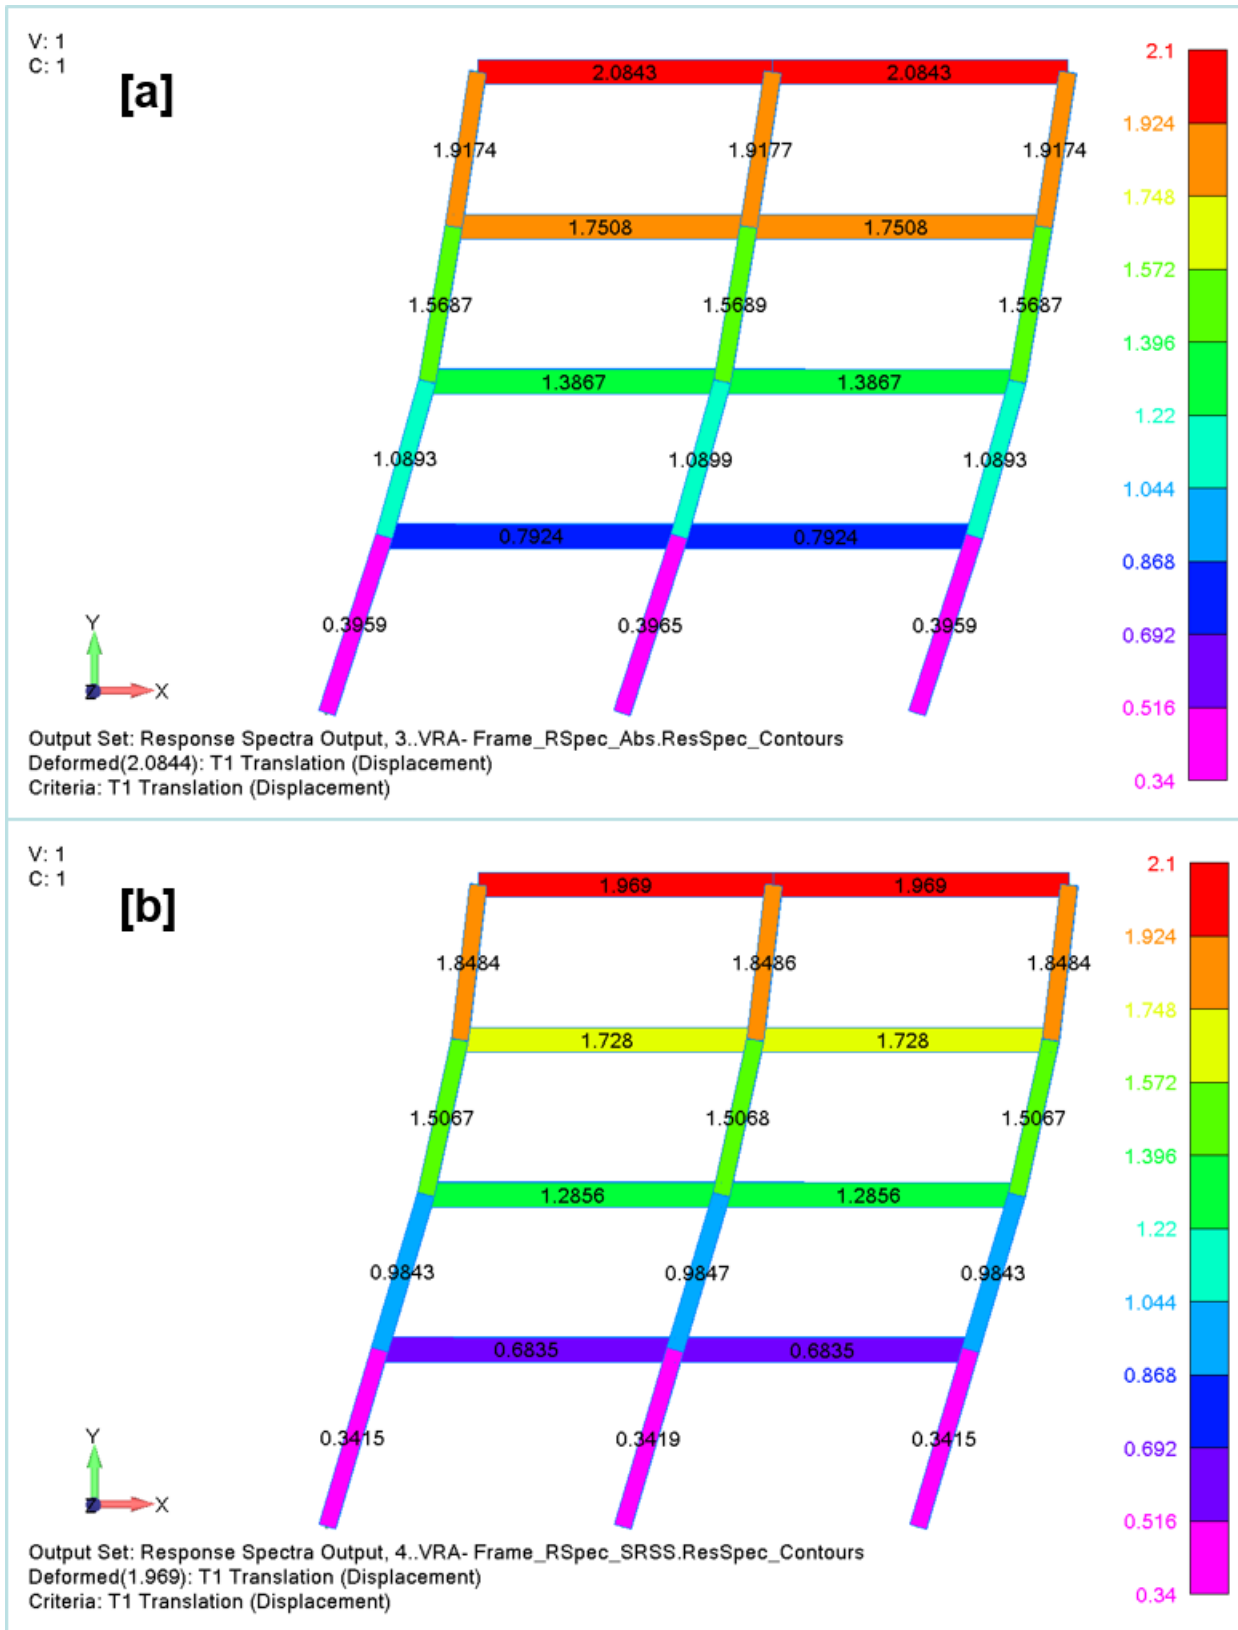
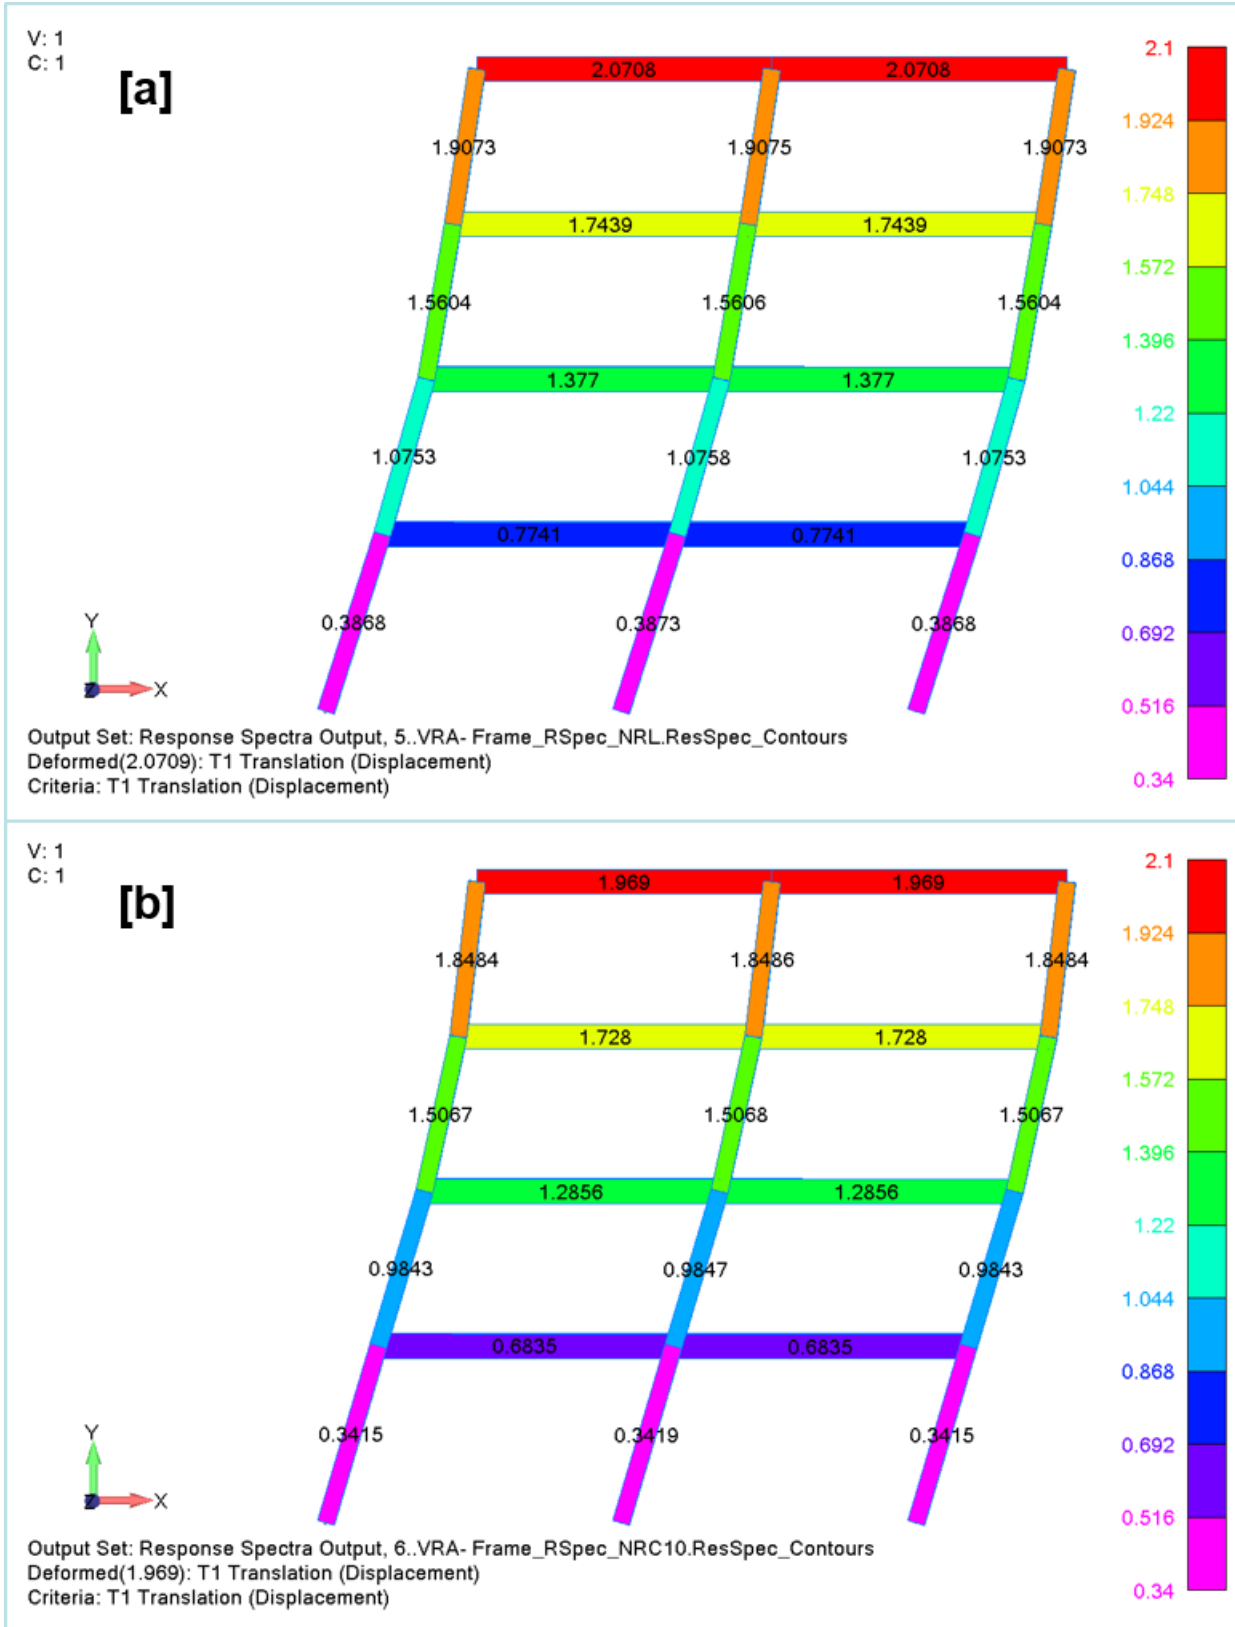
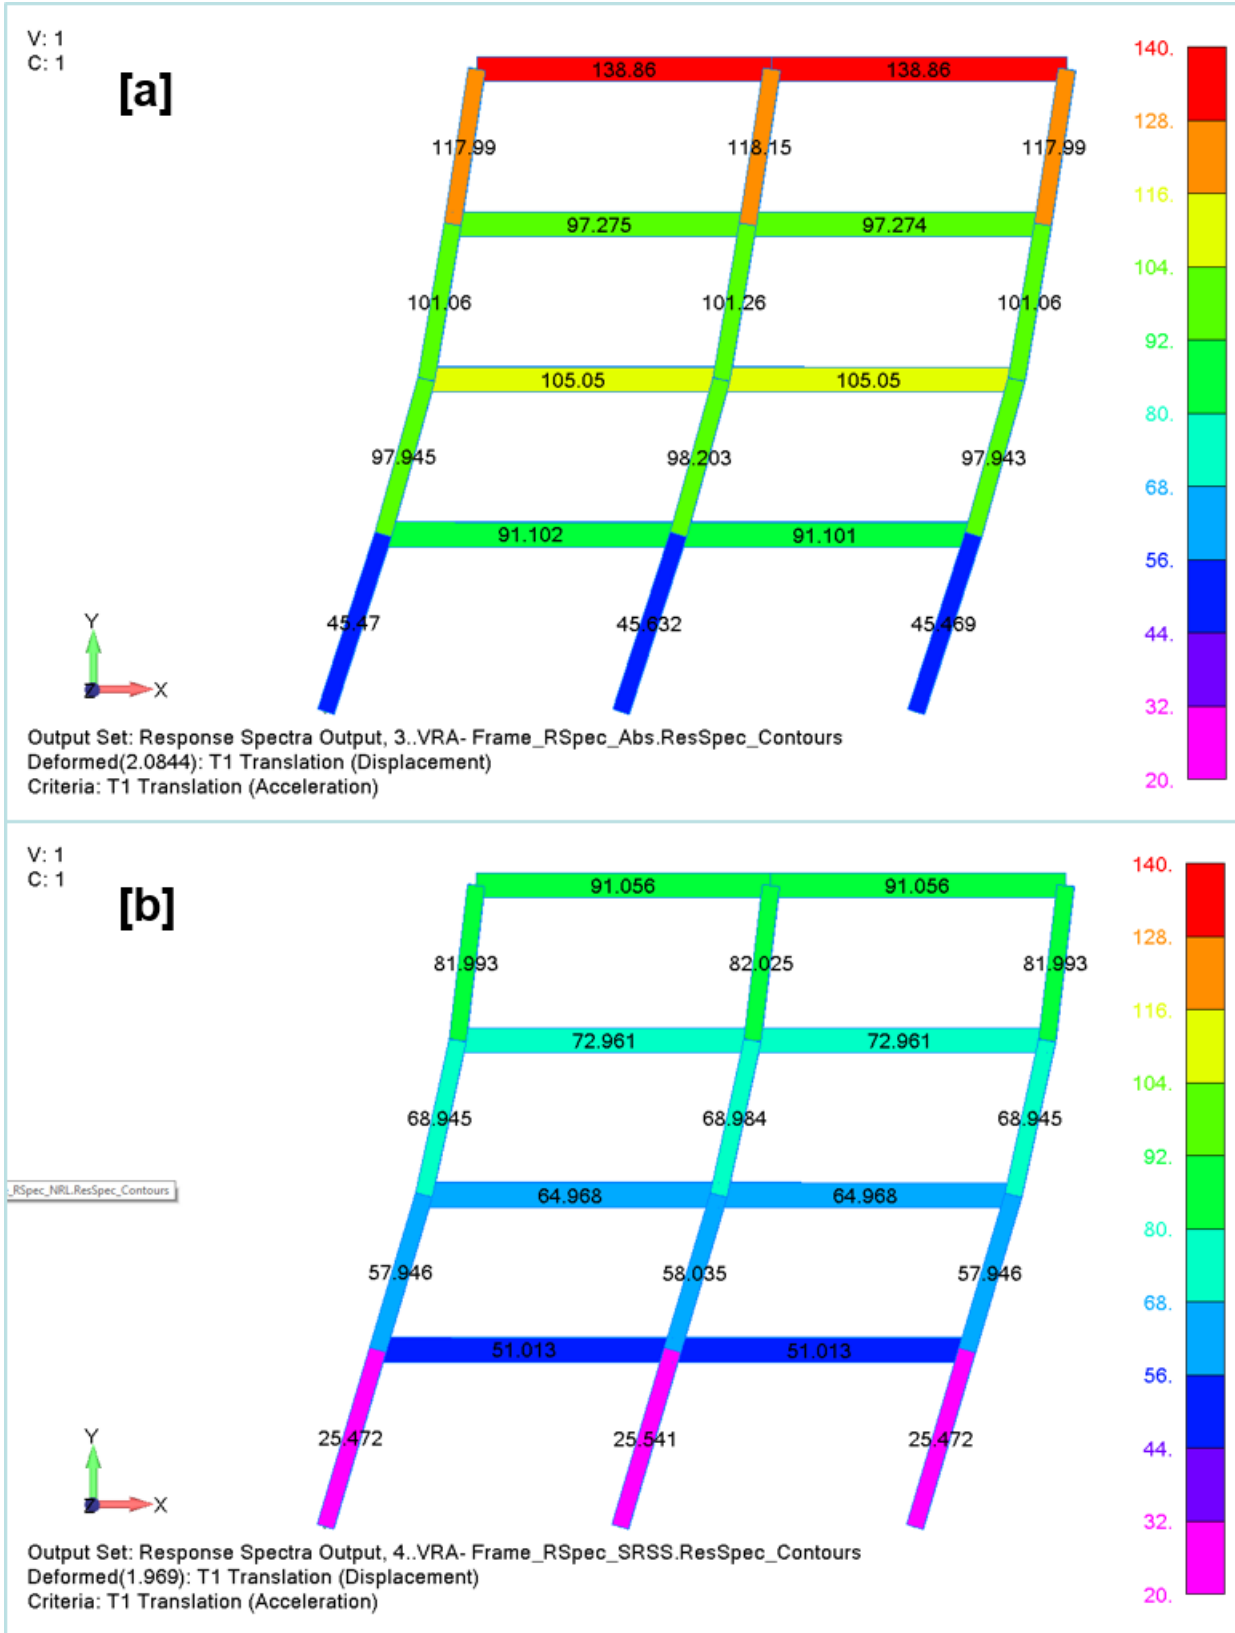
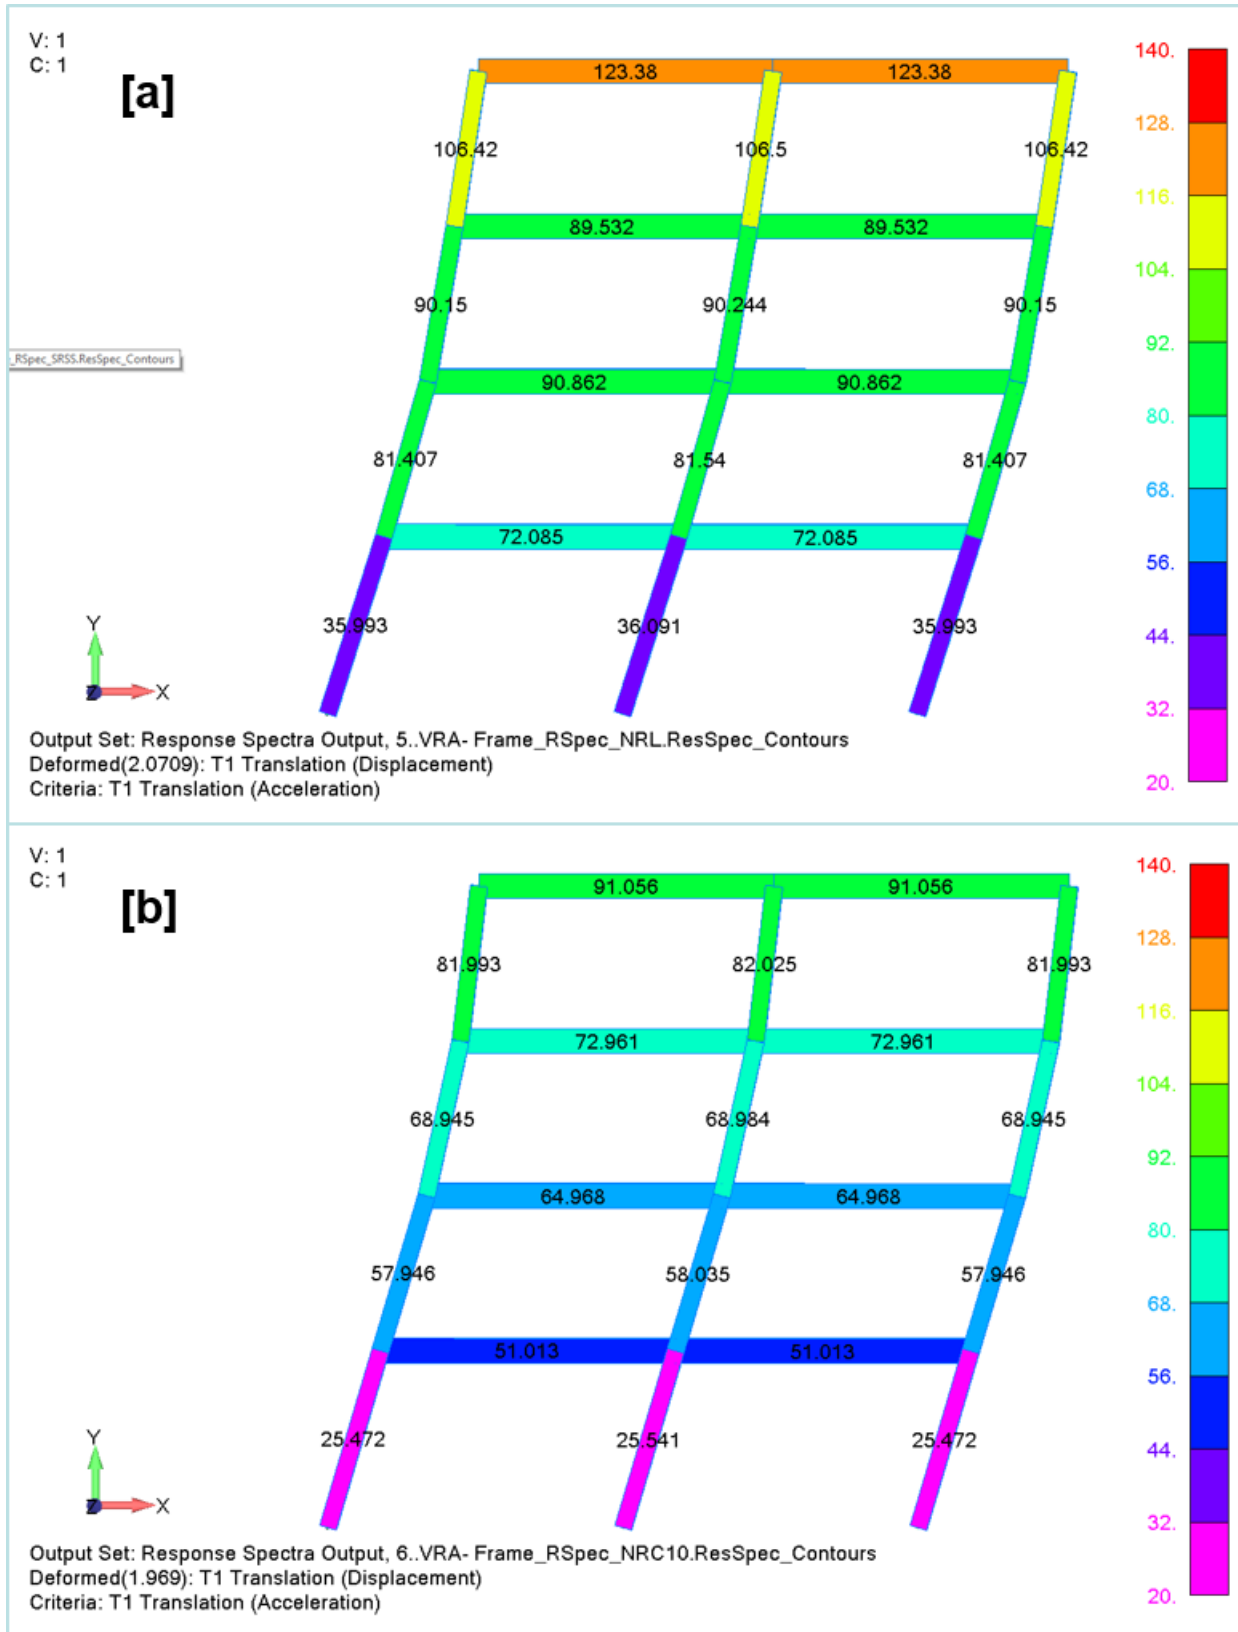

Figure 4-88. Displacements for [a] absolute value and [b] SRSS methods.
Figure 4-89. Displacements for [a] NRL and [b] NRC 10% methods.
Figure 4-90. Accelerations for [a] absolute value and [b] SRSS methods.
Figure 4-91. Accelerations for [a] NRL and [b] NRC methods
13. The displacement results are shown in Figure 4-88 and Figure 4-89. For all of the displacement plots, the color bar has been set to 10 intervals with the range from 0.34 to 2.1 inches. The acceleration results are in Figure 4-90 and Figure 4-91. The color bar range in these plots is from 20 to 140 in/s2.